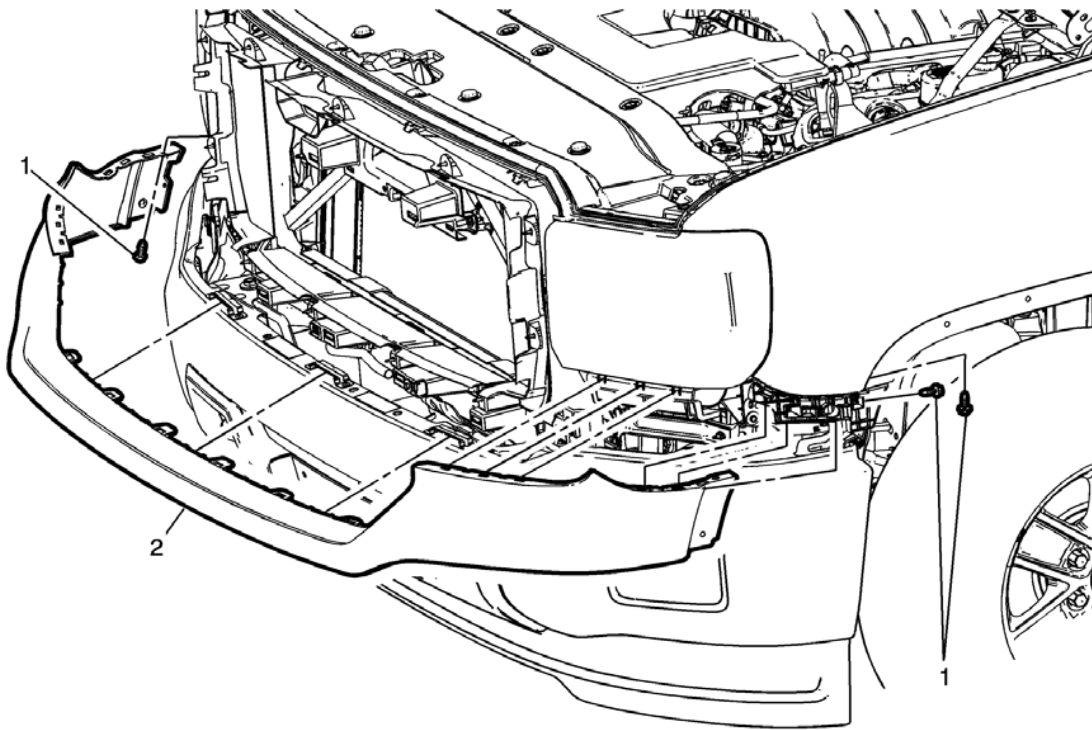

Figure 3
- C. Remove Front Bumper Fascia Trim Cap Bolts (indicated in Figure 3 callout 1) and then using a pick free front fascia (indicated in Figure 3 callout 2) and pull back wheel liner.